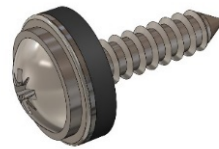

Figure 18 - Screw fixing locations for the cowl.
4. Secure the casing to the heat exchanger using the 16 number ST4.2 screw supplied fixings in location 4 *per side* in locations as shown below – *see figure 18.*